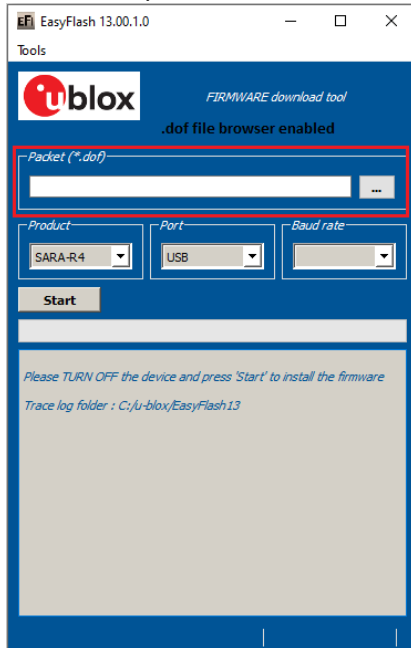

Figure 5: EasyFlash, select the ".dof" file path
1. Select the path to the FW .dof flash file in the main window of the tool (see Figure 5).